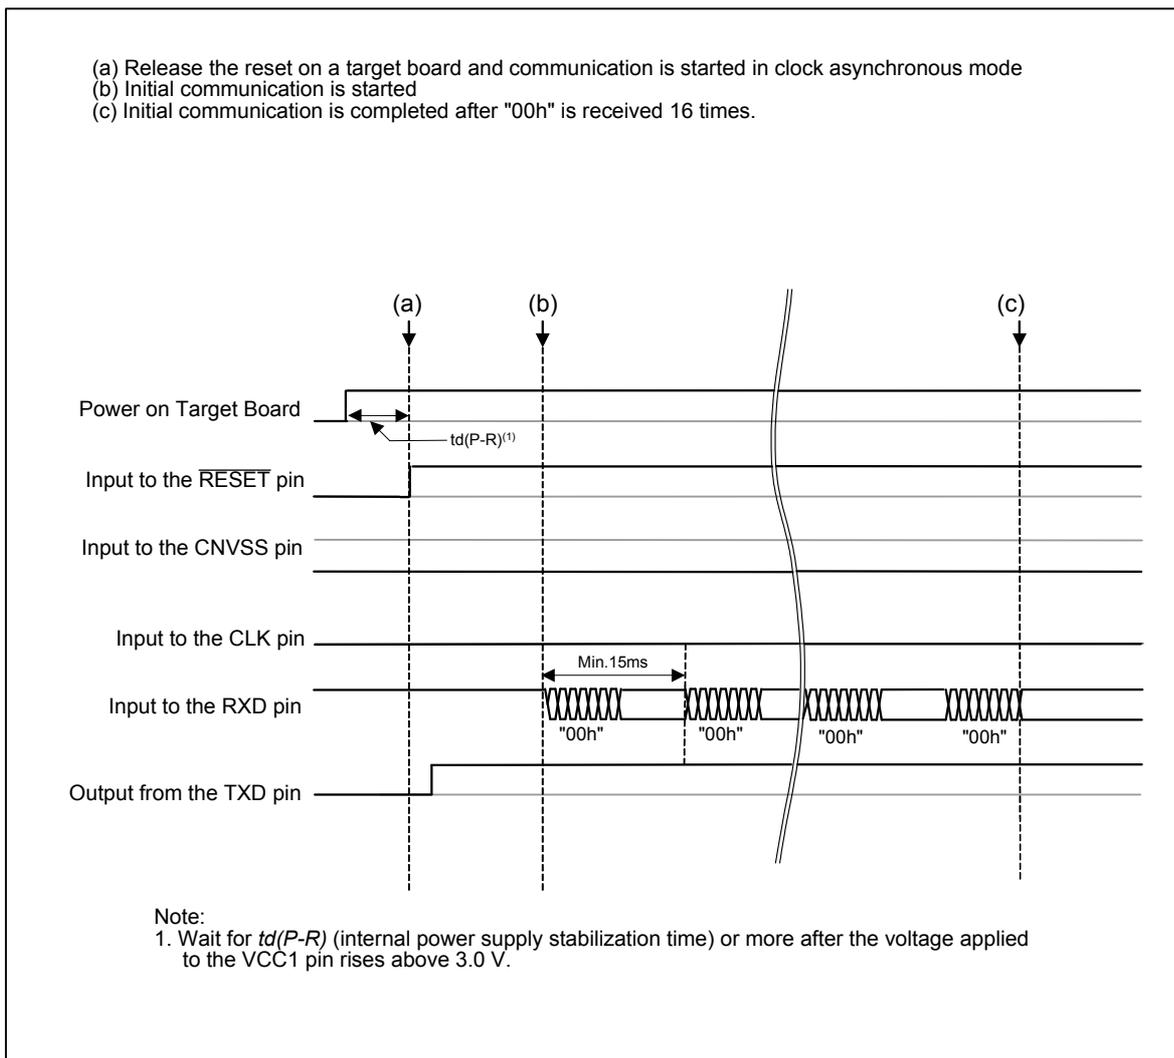

Figure 4.2 Timing Diagram of pin input in M32C/8A (Clock Asynchronous Mode)
Figure 4.2 shows the input timing diagram. The data transmit procedure is shown as follows;
- (1) Turn on a target board and release the reset (Refer to Figure 4.2 (a)).
- (2) Transmit the standard time data “00h“ 16 times for intervals of 15 ms or more at 9600 bps from a program transmit board. M32C/8A sets UART1 baud rate register to a value corresponding to operating frequency by receiving “00h“ 16 times and completes initial communication .
- (3) The program download command is transmitted from a program transmit board and M32C/8A writes them into the internal RAM.
- (4) When the checksum values match after completion of writing into the internal RAM, M32C/8A executes the transmitted program from executing start address in the internal RAM. When the checksum values do not match, M32C/8A initializes the internal RAM then waits for (3) process in this procedure .